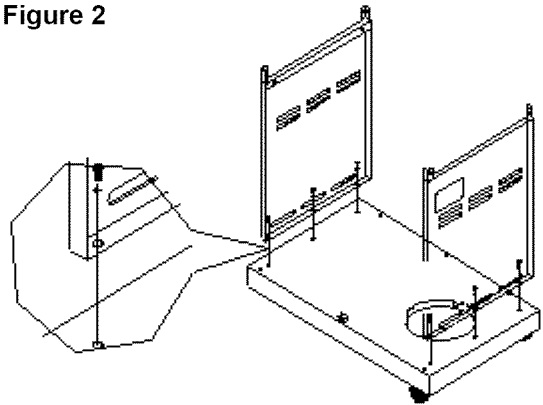

Figure 3
3. Attach back panel to side panel & bottom panel using (7) $\frac{5}{32}$ x $\frac{3}{8}$ " Phillips head screws with (7) $\frac{5}{32}$ " lock washers. (Fig.3)